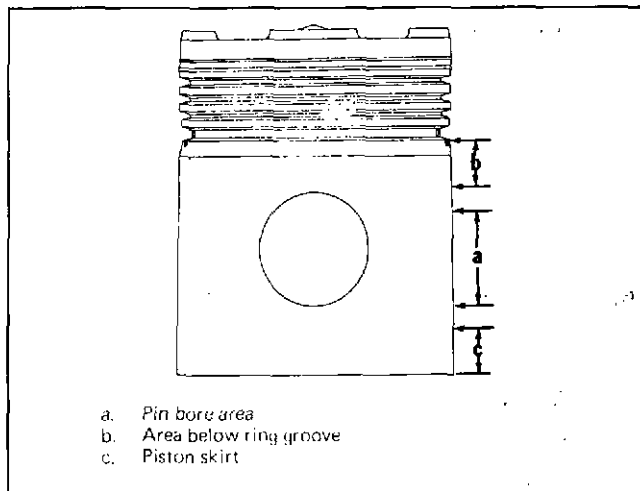

Fig. 1-65 (N20171). Check Points For The Outside Diameter Of The Piston.
- a. Measure the area A, Fig. 1-65, for pistons that are barrel-ground.